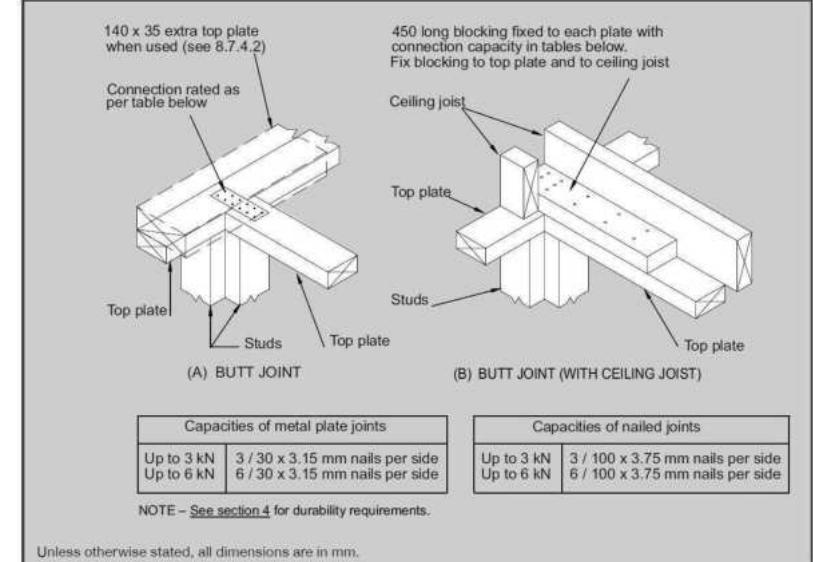

Figure 8.16 - Connecting top plates to external walls at right angles – Walls containing bracing (see 8.7.3.4)
- For each wall containing wall bracing elements with a total bracing capacity of not more than 125 bracing units: to at least one such external wall by a fixing as shown in figure 8.16 of 6 kN capacity;
- For each wall containing wall bracing elements with a total bracing capacity of not more than 250 bracing units: to at least 2 external walls by fixings as shown in figure 8.16 each of 6 kN capacity;
- For each wall containing wall bracing elements with a total bracing capacity of more than 250 bracing units: to at least 2 external walls by fixings as shown in figure 8.16 each having a rating of not less than 2.4 kN per 100 bracing units.